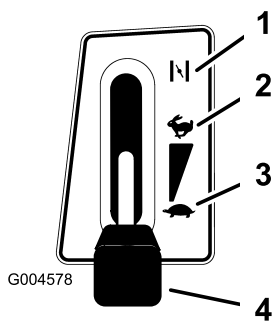

Figure 13
5. Shift the throttle lever to Choke (Figure 13).
- After the engine starts, slowly shift the throttle lever to Fast (Figure 13). If the engine stalls or hesitates, shift the throttle lever back to Choke for a few seconds and then shift the throttle lever to Fast. Repeat this step as required.
- Shift the throttle lever to Slow (Figure 13).